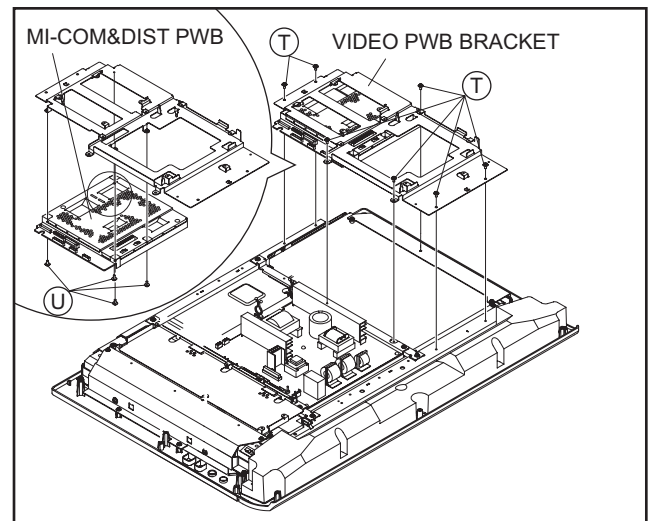

Fig.3-1-7
3.1.7 REMOVING THE MI-COM & DIST PWB (Fig.3-1-7)